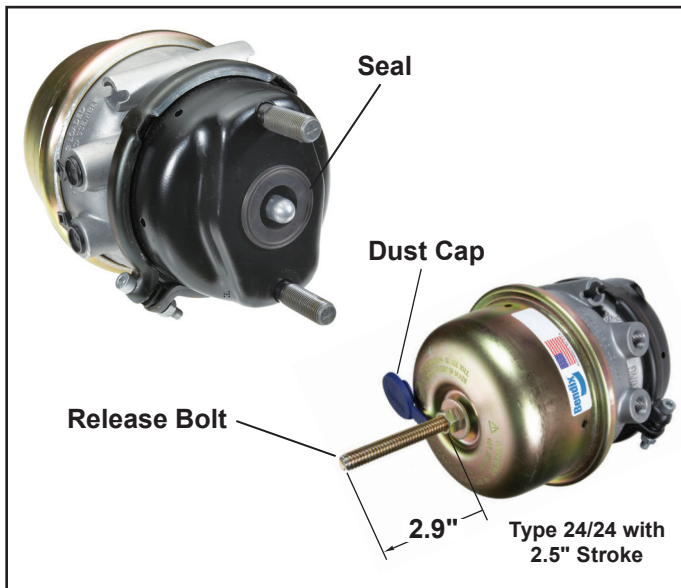

Figure 9 – Double Diaphragm-Style Spring Brake Shown In The Caged Position
1. Remove the dust plug or weather seal from the keyhole located at the rear center of the spring brake chamber. See Figure 9.
8. Rotate the release bolt nut clockwise until a slight resistance is encountered. Proper caging will be complete when a slight resistance is felt after turning the release bolt nut. The release bolt should be extended as shown in Figure 9. **(DO NOT OVER TORQUE RELEASE BOLT. OVER TORQUING CAN CAUSE SPRING BRAKE DAMAGE.)**
IMPORTANT: To ensure the power spring is fully caged, the extended release tool length should measure 2.9 inches as shown in Figure 9.